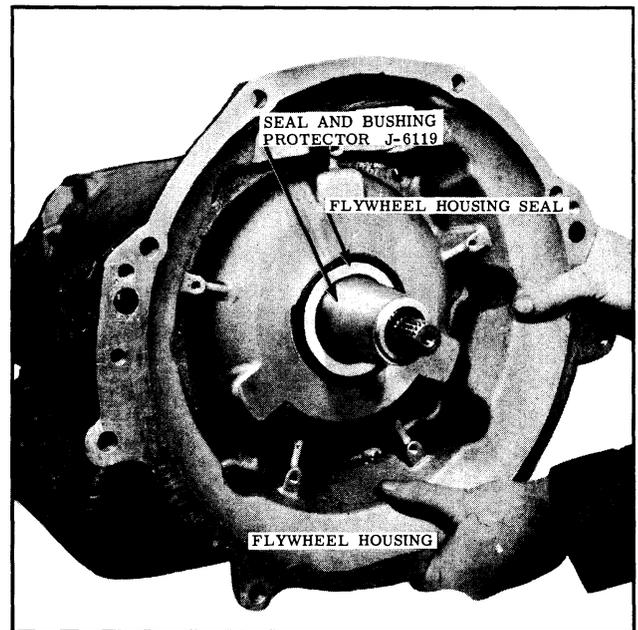

Fig. 3-24 Seal and Bushing Tool
11. Install seal and bushing protector Tool J-6119 over the shafts. (See Fig. 3-24)